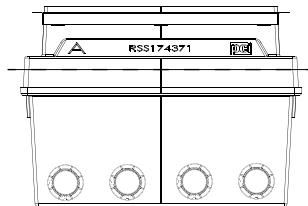

FIGURE 3
A. To determine the overall height that you will need for your sump, you can dry fit the riser to the base by simply setting it in the base's trough. By pulling a string across your excavation to represent your final grade, you can measure the height of the sump and adjust the height to ensure that top of the frame sits flush with grade. Refer to FIGURE 3.